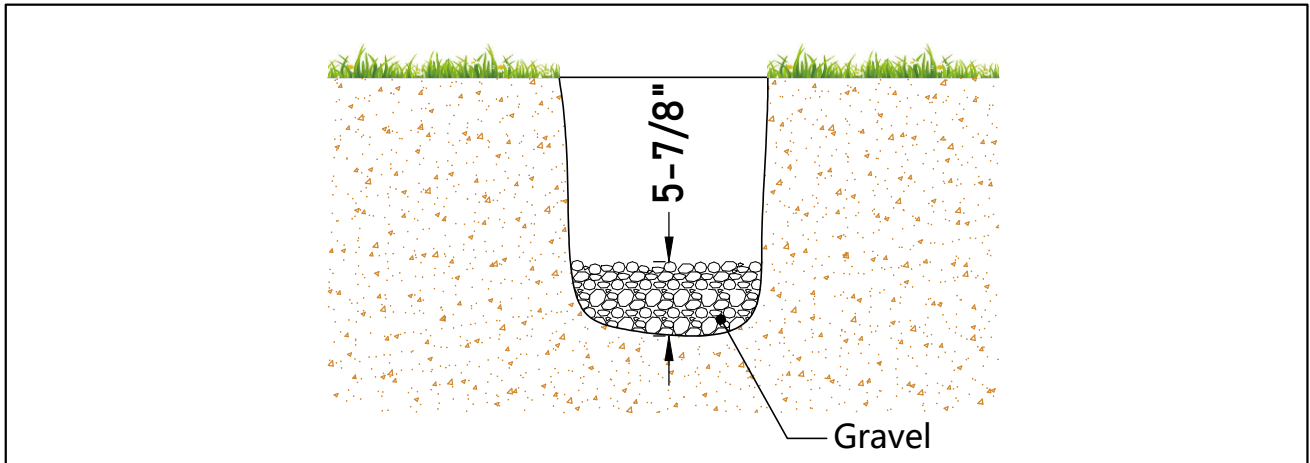

Figure 4
- 4 Lay 5-7/8" of gravel at the bottom of the hole to allow for proper water drainage, as shown in Figure 4.